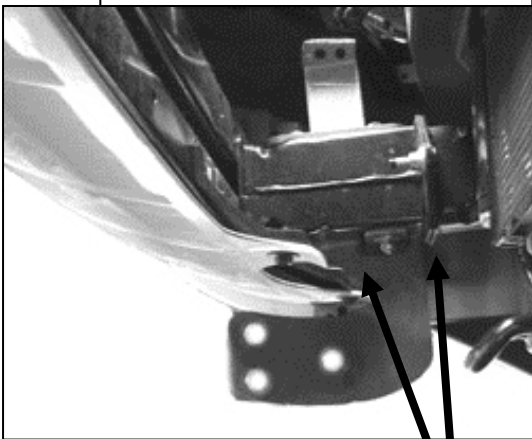

Figure 1
- Line up holes on the Mounting Bracket with holes on the frame rail. Secure Mounting Bracket with the included (2) 8-1.25mm x 120mm Hex Bolts, (2) 8mm Nylock Nuts, and (4) 8mm Flat Washers (Figure 1 & 2). Do not tighten at this time.